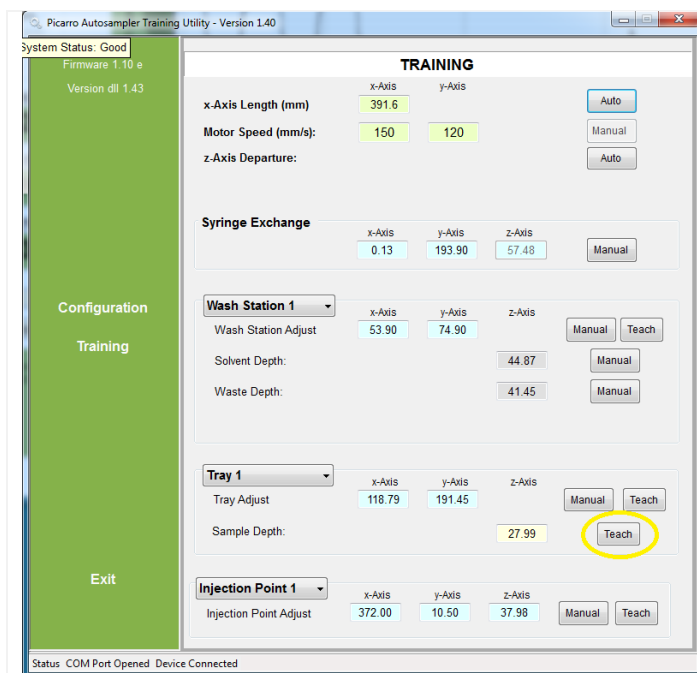

Figure 145. Select “Teach” for Sample Depth.
STEP 22 | Select the “Teach” for **Sample Depth** to train the Autosampler to achieve the appropriate sample depth for sampling (**Figure 145**). NOTE: Sample head will move to vial 1 position